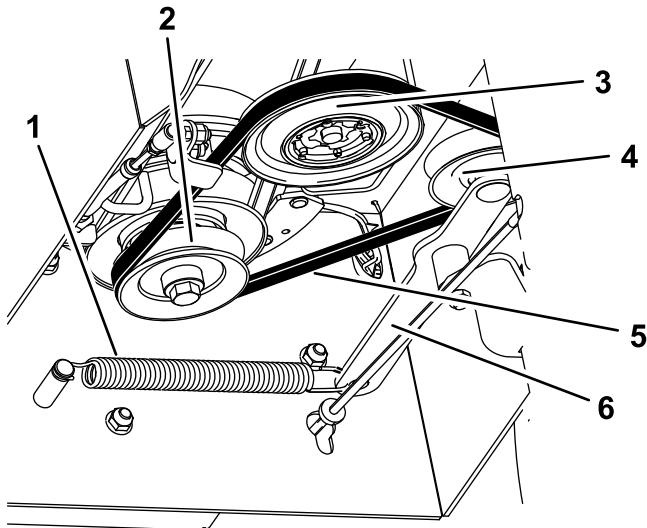

Figure 30
4. Remove the extension spring from the tension arm (Figure 30).
6. Wrap the new transmission belt around the clutch, transmission, and tension pulleys (Figure 30).